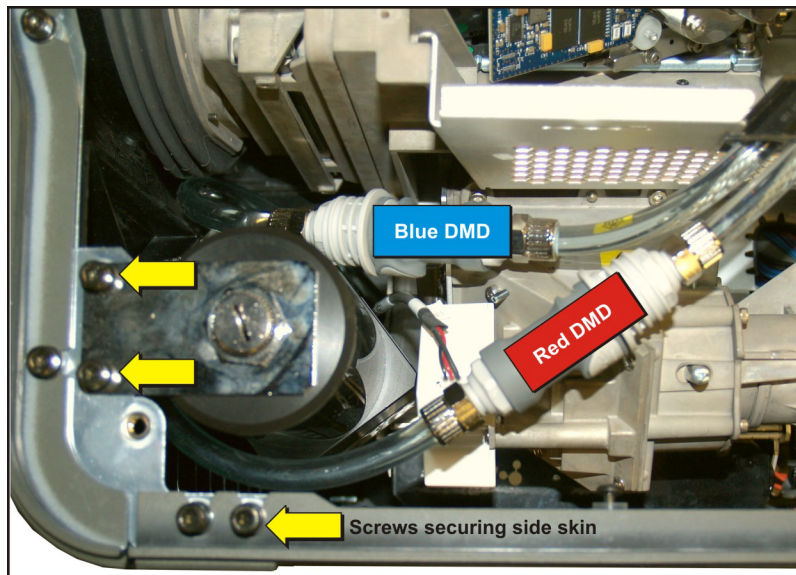

Figure 5-41 Quick Disconnects
5. Disconnect the two quick disconnect hoses to the light engine (**Figure 5-41**).
6. Remove the two screws from the bracket securing the reservoir and pump (**Figure 5-41**).
7. Loosen the two screws securing the side skin in order to pull the skin aside and slide the cooling assembly out (**Figure 5-41**).